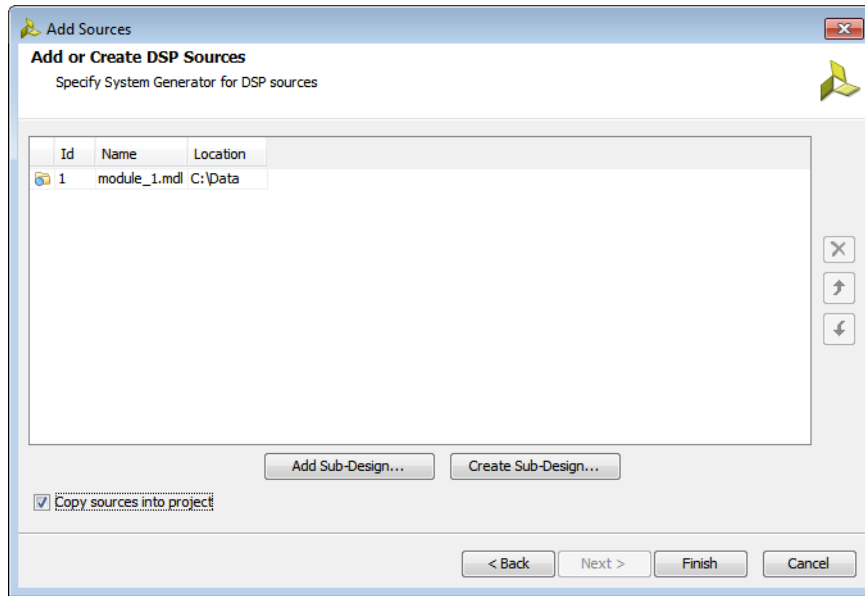

Figure 3-17: Add Sources Wizard—Add or Create DSP Sources Page
3. In the Add or Create DSP Sources page (Figure 3-17), set the following options, and click **Finish**.